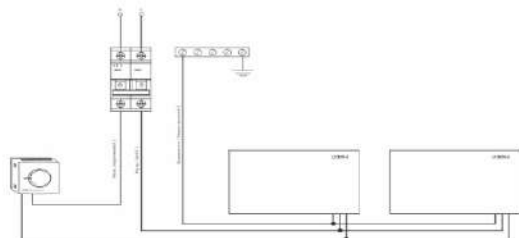

Fig. 1. Scheme of parallel connection of panels
7.1.8 Connect the wires to the thermoregulator. The wiring scheme is shown in **Fig. 1**.
7.5.4 Connect the wires to the thermoregulator. The wiring scheme is shown in **Fig. 1**.